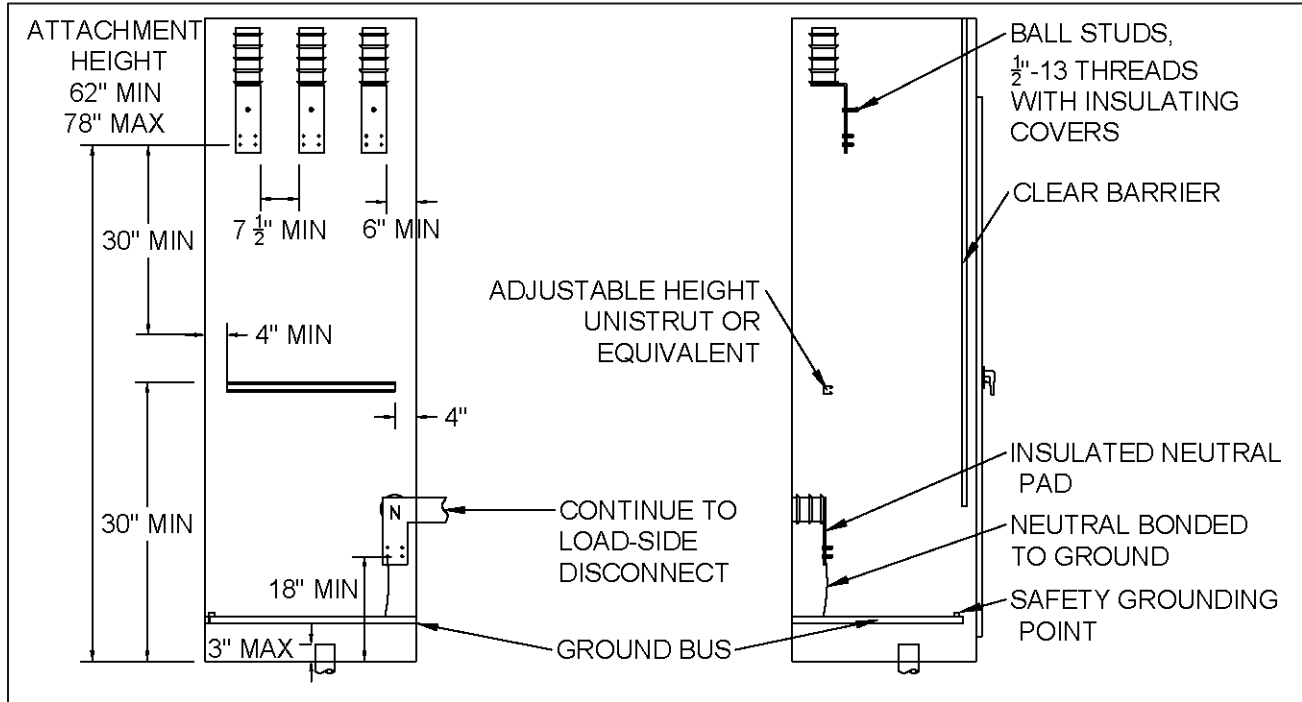
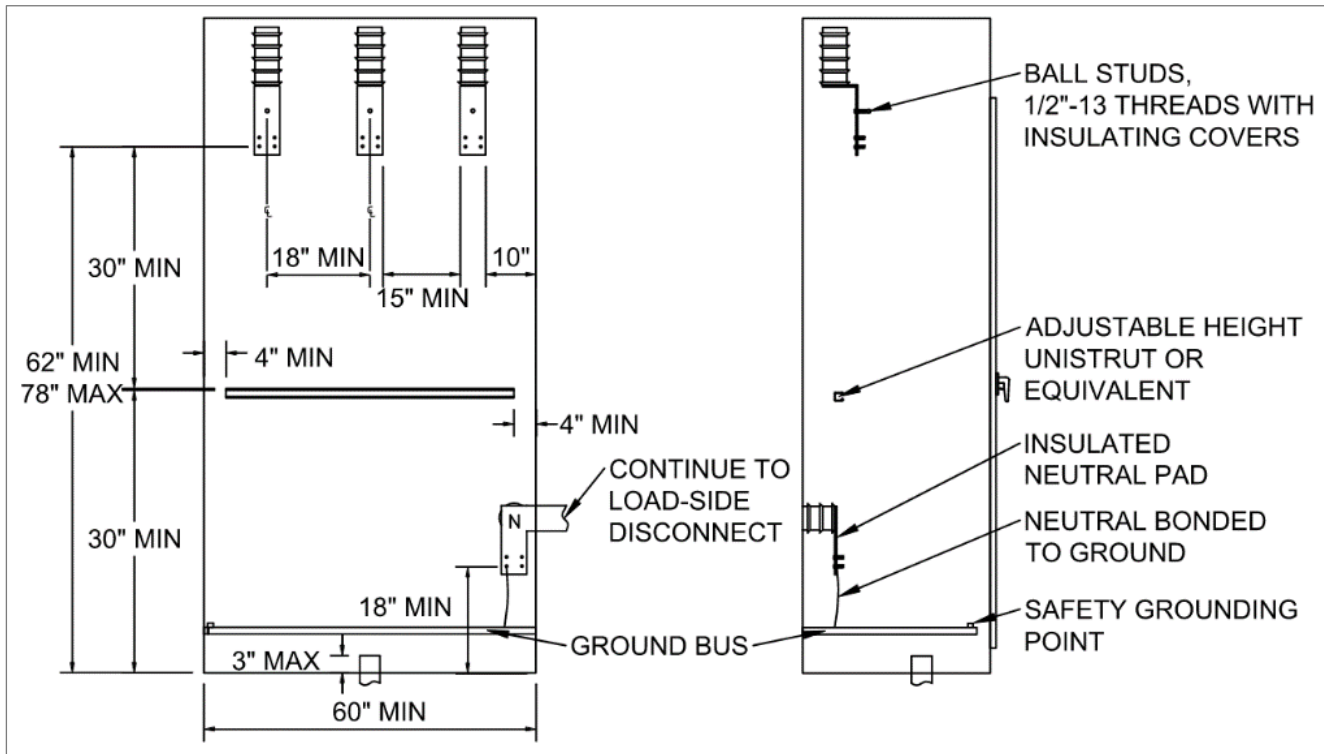

Figure 9: Termination Compartment Clearances for 12.47 kV (STD-M-3301)
Figure 10: Termination Compartment Clearances for 34.5 kV (STD-M-3601)
- Between the termination lugs and the access door. This barrier must be hinged to allow unobstructed access to the terminations as shown in Figure 9.
- A minimum 1/4-inch clear polycarbonate insulating barrier is required between the termination lugs and the access door. The polycarbonate (such as Lexan or Makrolon) must be electrically insulative, transparent, and meet applicable codes (NEC, UL). This barrier must be hinged to allow unobstructed access to the terminations as shown in Figure 9 and Figure 10.
For services up to 12.47 kV, the termination section must meet the requirements defined in EUSERC 418, as well as those shown in Figure 9 and listed below.
For 34.5 kV services, the termination section must meet PGE's requirements, as shown in Figure 10 and listed below.